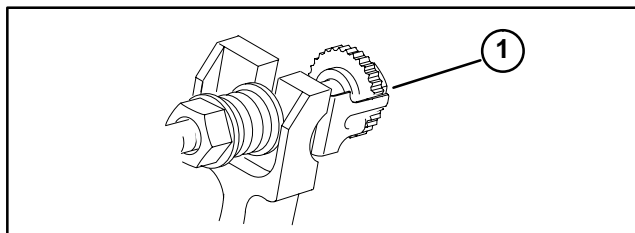

Figure 8
1. A 19 mm (3/4 inch) wrench will be needed to rotate bedknife adjustment knob. Each notch on the knob will move the bedknife .0005 inches (.013 mm) (Fig. 8).